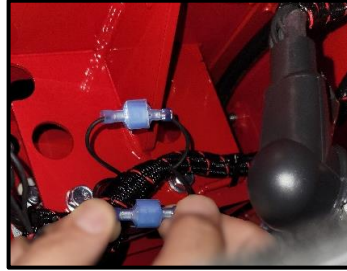
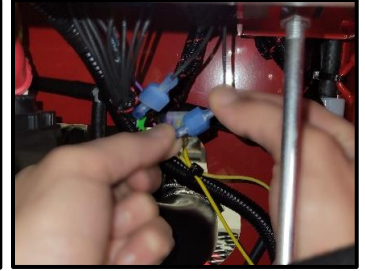

Figure 9 Left Side Motion Control Spade Terminals
Figure 10 Right Side Motion Control Spade Terminals
- Disconnect the spade connections from the main harness at the lower end of the motion control arm [Figure 9, Figure 10].